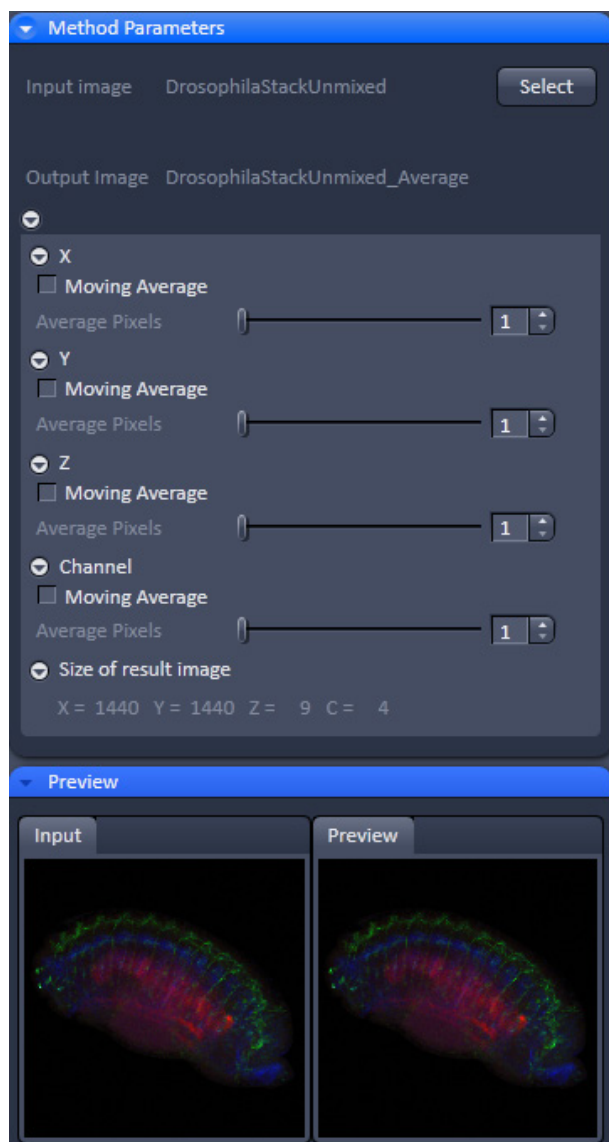

Fig. 402 Processing – Average
- Click on the triangle buttons to show or hide the **Method Parameters** and **Preview** panels (Fig. 402) for the function.